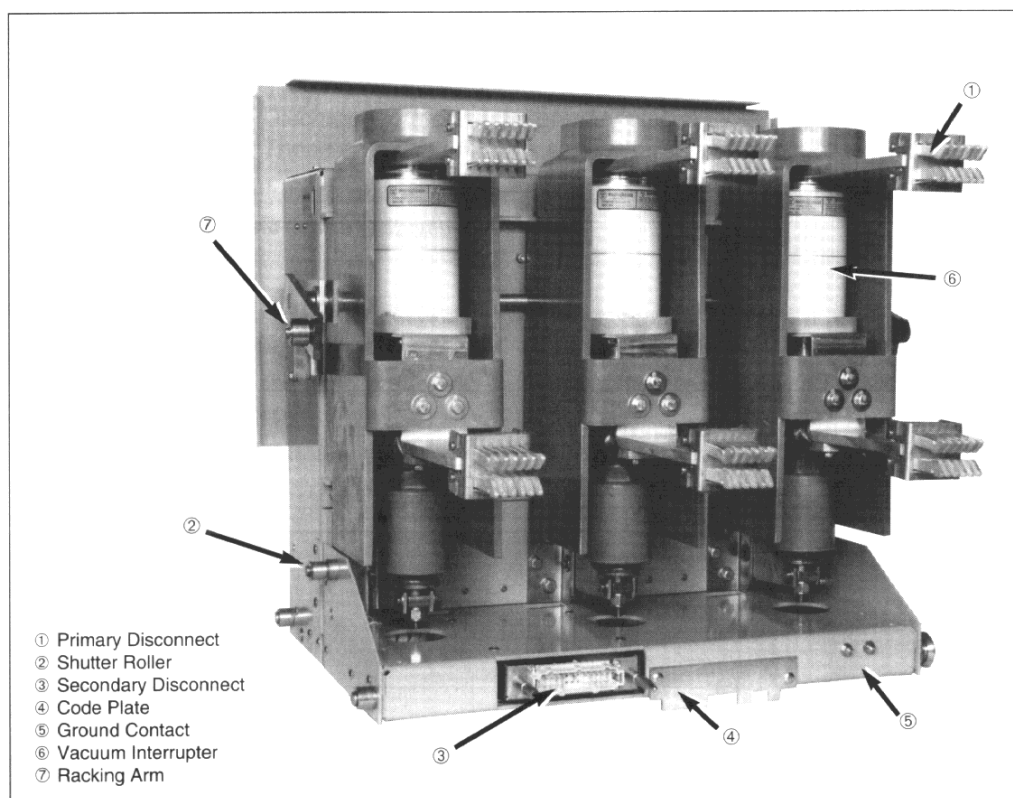

Figure 2: Circuit breaker, rear view
Vacuum interrupters (figure 2), mounted vertically within the circuit breaker frame, perform the circuit breaker interruption. Consisting of a pair of butt contacts, one movable and one fixed, interrupters require only a short contact gap for circuit interruption. The resulting high-speed operation allows the entire operating sequence, from fault to clear, to be consistently performed in three cycles or less.
The primary connection to the associated switchgear is through the six primary disconnects (figure 2) mounted horizontally at the rear of the circuit breaker. Do not subject the primary disconnects to rough treatment. **Never use the primary disconnects as handles when maneuvering the breaker.**
The secondary disconnect (figure 2, page 6) mounts on a retractable slide so that it can connect to the control circuit of the cell while the cell shutters are down and the primary connections have not been made. This provides a convenient and safe method for electrically testing the operation of the circuit breaker mechanism and control circuit. Test position operation is achieved by following these steps:
2. Pull the secondary disconnect handle (figure 2, page 6) out of its retaining clip; rotate it down so that it protrudes straight out from the circuit breaker.